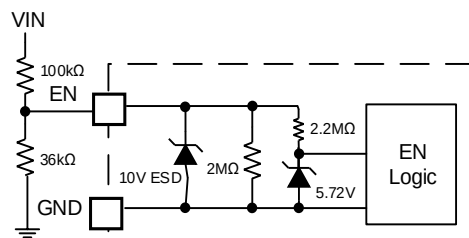

Figure 4: 10V Zener Diode Connection
The MPQ4272 offers enable (EN) control. The EN pin has two levels with different thresholds. At the first level, EN > 0.7V, and VCC is enabled. At the second level, EN > 1.6V, and the chip begins normal operation. EN is clamped internally using a 10V series Zener diode (see Figure 4). Use two resistor dividers to connect the EN pin to the VIN supply and to GND. The EN rising threshold is 1.6V, so VIN must exceed 6.05V to enable the circuit. Do not add a capacitor above 1nF on the EN pin.